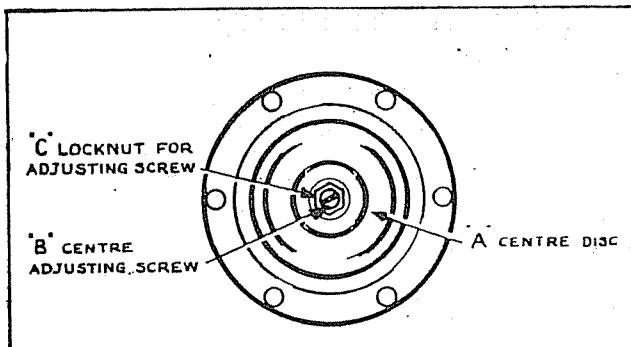
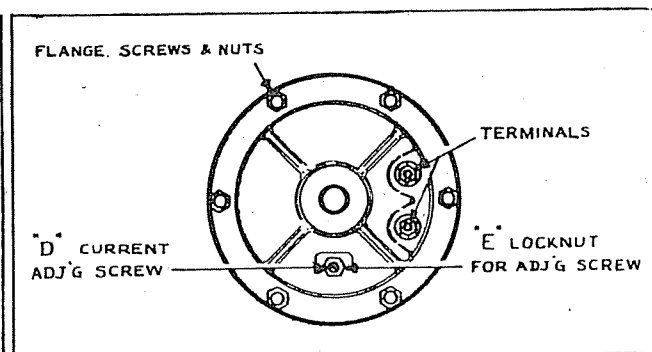

Fig. 31.
Fig. 32.
(Refer Figures 31 and 32).
- (1) Remove the centre disc "A", centre adjusting screw "B" and lock nut "C". See Figure 31.
- (2) Adjust the humming or starting current by means of screw "D" and lock nut "E" located on back of body (Figure 32). The note should be smooth and clear when correctly set and the current and voltage should correspond with the following table:
- (3) Re-assemble the centre disc, screw and lock nut and adjust the horn until a clear note is produced. Lock adjusting nut tightly and recheck current consumption with the following table:
- (1) Incorrect voltage and current. Both ratings should correspond to the test setting data in the foregoing paragraph when measured at the horn terminals.
- (2) Loose electrical connectors.
- (3) Loose adjusting screw "D" (Figure 32).
- (4) Loose flange screws and nuts.
- (5) Loose resonator disc "A" (Figure 31).
- (6) Leaking or broken gasket.